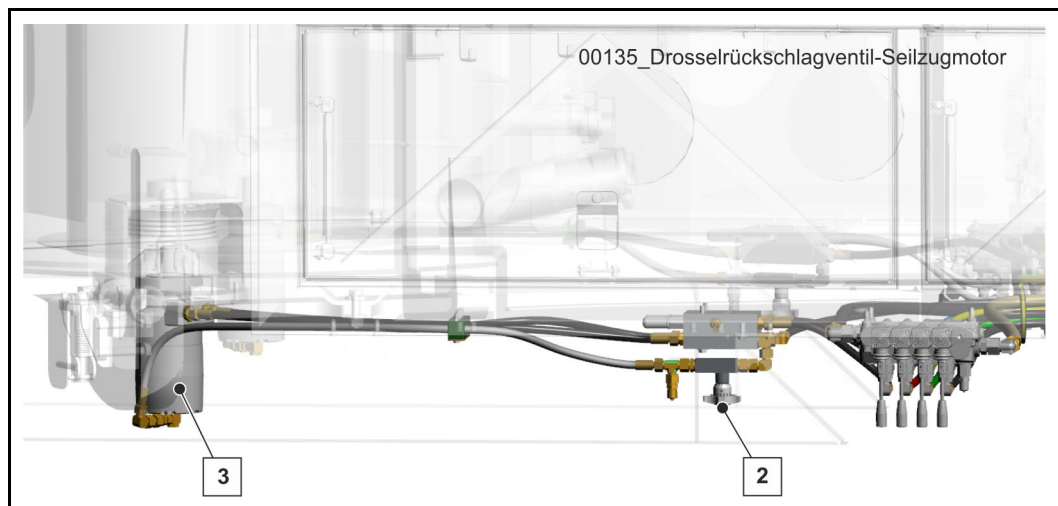

Fig. 324 Wire rope hoist motor (3) with one-way restrictor (2)
- Close the one-way restrictor (2) (**Fig. 324**)
- Release the one-way restrictor (2) (**Fig. 324**) (brake closes and releases again)